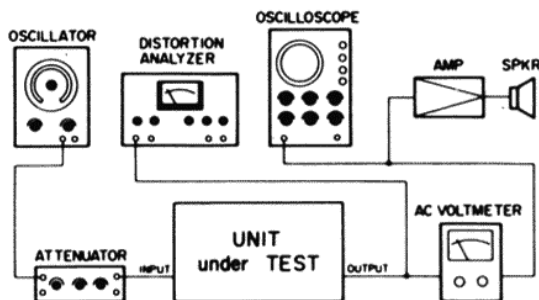

Figure 6-7. Distortion Test Connections
1. Connect test equipment as shown in Figure 6-7 to the inputs and outputs of the machine.